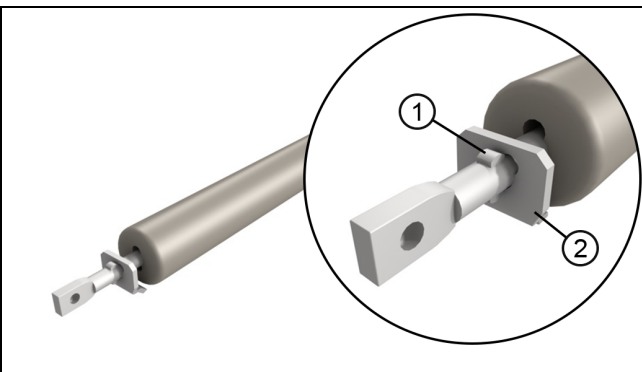

Figure 20
3. Place the hold open washer on the end of the closer rod and position it over the lugs. This will give proper tension for installation. See Figure 20.